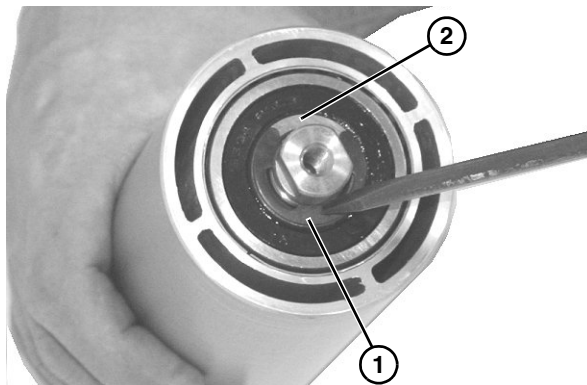

Figure 43
5. Remove the spindle shaft assembly: remove the clip ring (Figure 43, item 1) and washer (Figure 43, item 2) from one side of the spindle assembly.